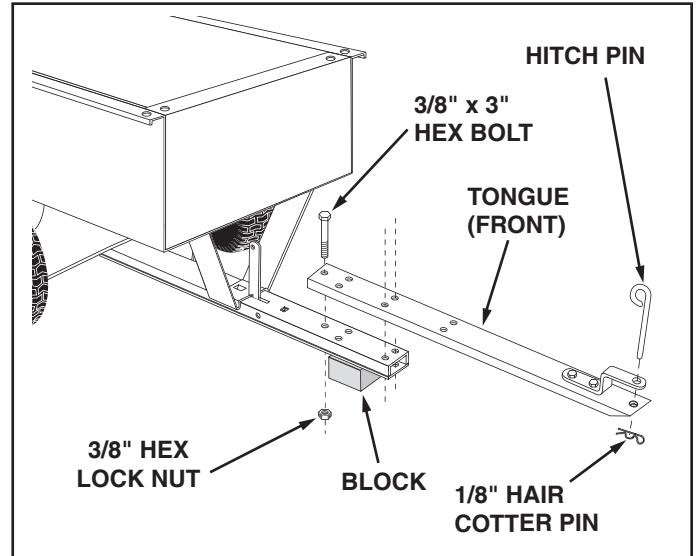

FIGURE 4
- Assemble the front tongue on top of the rear tongue using three 3/8" x 3" hex bolts and 3/8" hex lock nuts. See figure 4.
- Assemble the hitch pin to the hitch bracket and tongue, securing it with the 1/8" hair cotter pin. See figure 4.